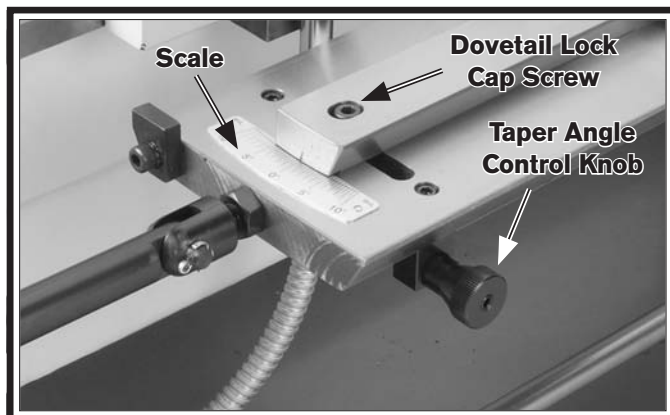

Figure 17. Taper angle adjustment.
24. Using a 6mm hex wrench, loosen the dovetail lock cap screw at each end of the taper attachment, as shown in **Figure 17**.
25. Turn the taper angle control knob (**Figure 17**), so the taper attachment points to zero degrees as shown on the scale.